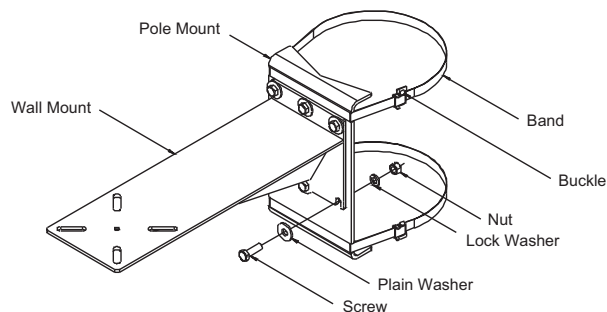

Figure 3: Securing the LTC 9225/00 with an LTC 9216/00 or an LTC 9222/00
5. For model LTC 9213/01 with an LTC 1348/00, secure the wall mount to the pole mount using the four (4) No. 6 screws provided. Use the four (4) smaller holes that are in a rectangular pattern.
6. For model LTC 9225/00 with an LTC 9216/00 or an LTC 9222/00, secure the wall mount to the pole mount using the six (6) 12 mm screws, plain washers, lock washers and nuts provided (see *Figure 3*).